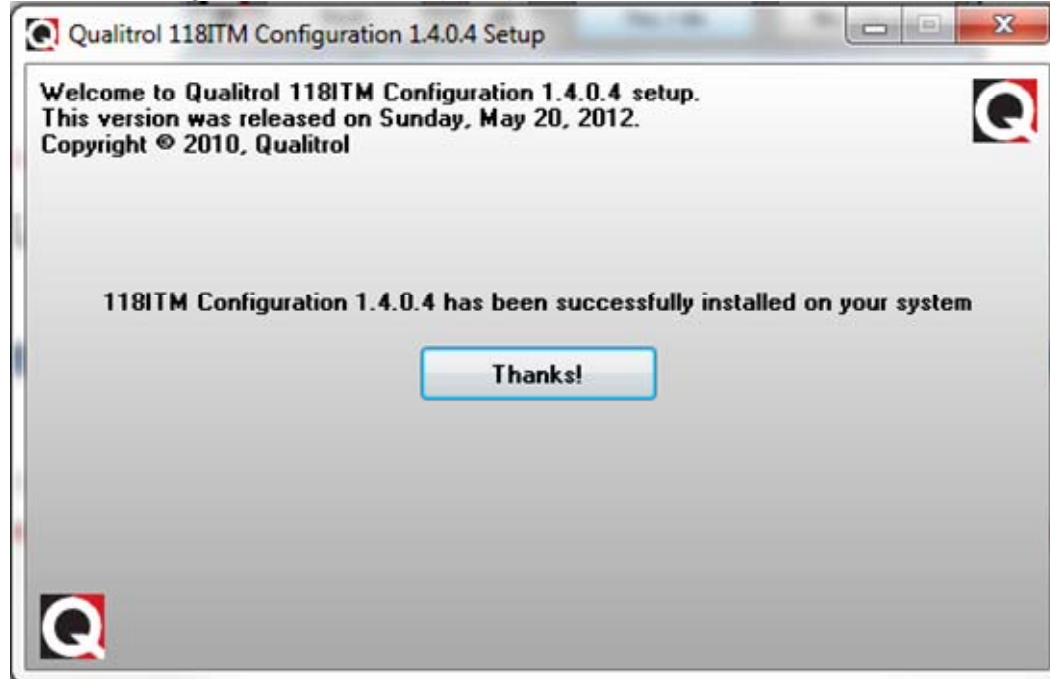
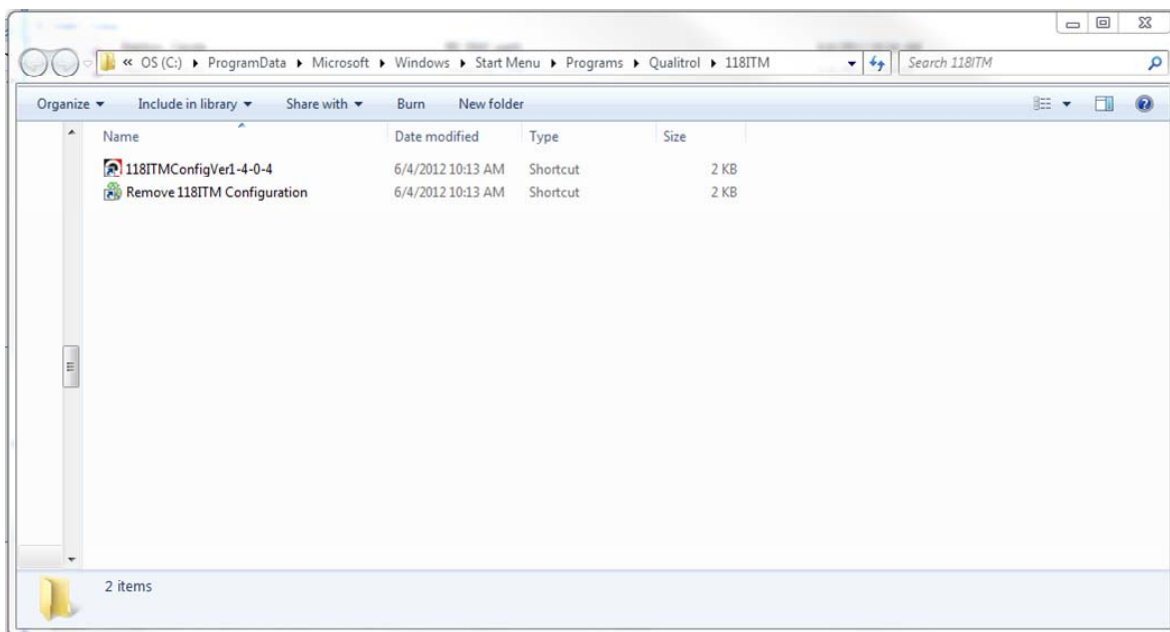

Figure 17 Final Install Window
Figure 18 118ITM Qualitrol Folder
5. Clicking on the “Thanks!” button, shown in figure 17, will complete the software installation and bring up the “**C:\Program Files\QUALITROL\ITM118**” directory (figure 18). Here the user will find the 118ITM shortcut and software uninstall option.